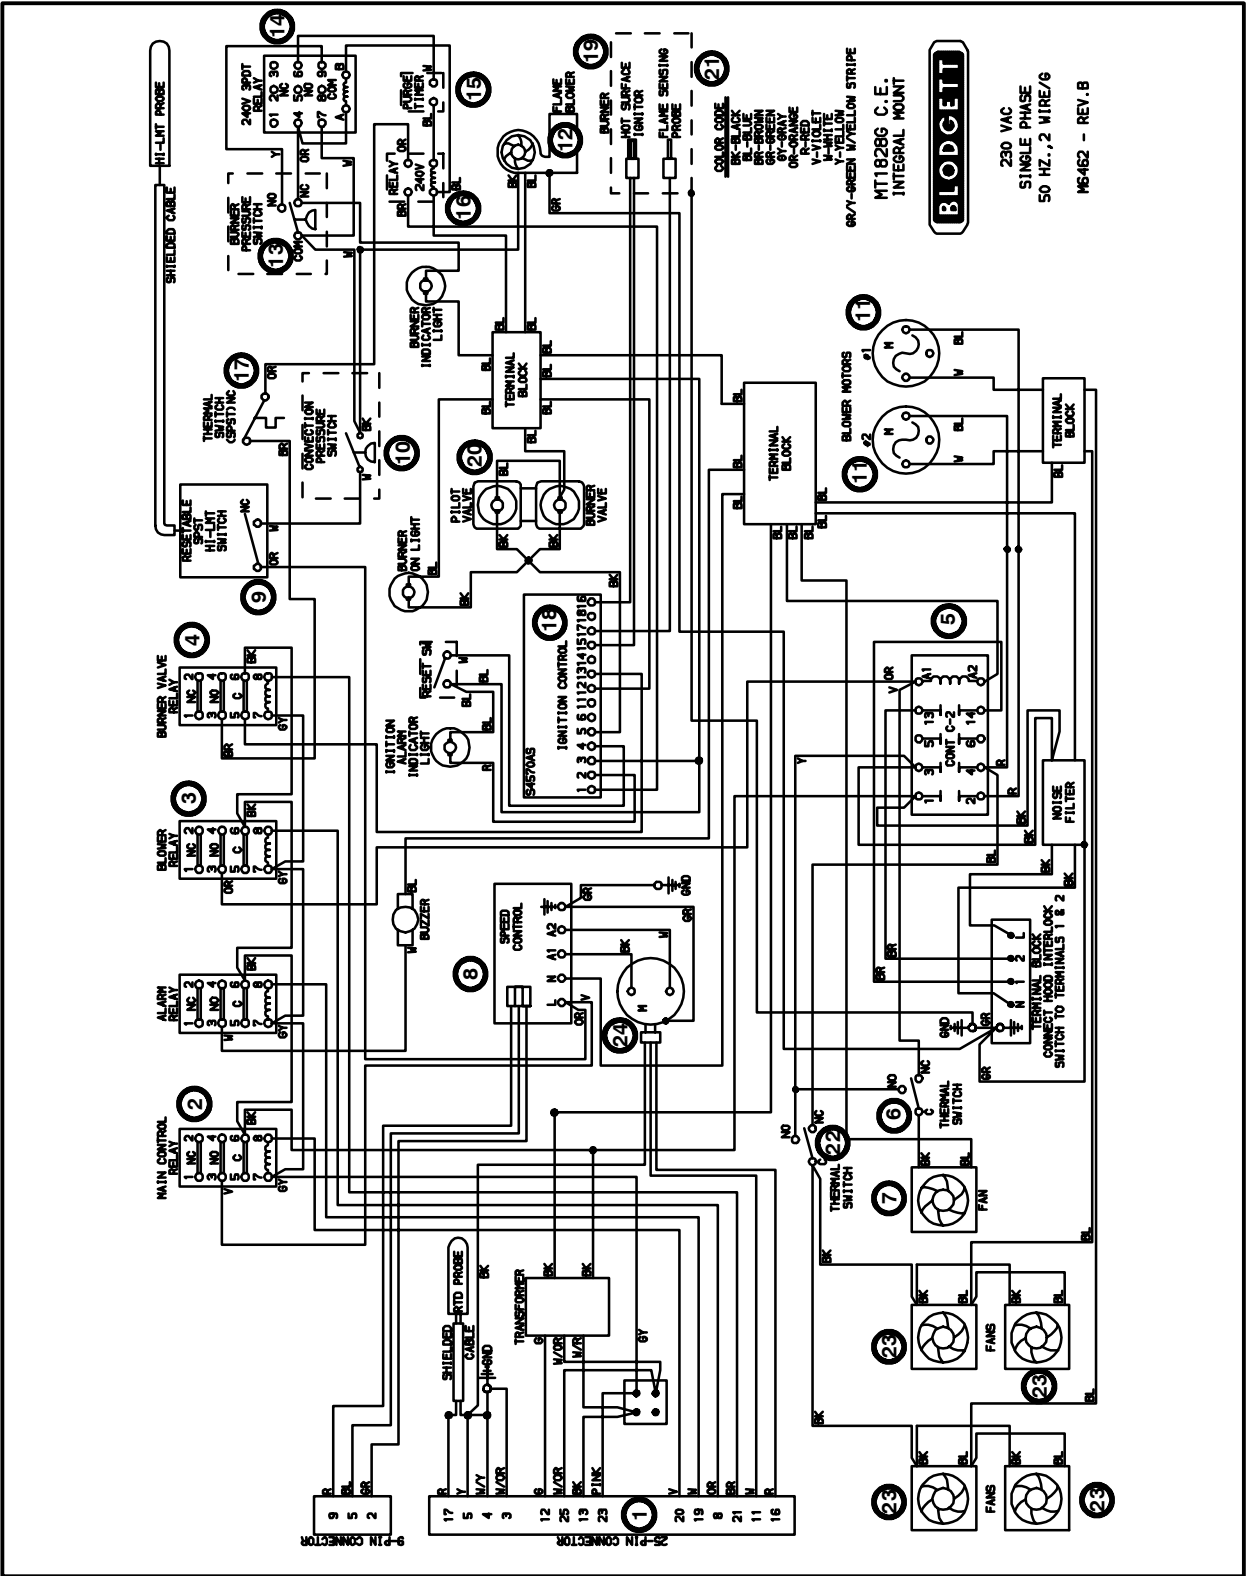

FIGURE 5
*NOTE: Refer to FIGURE 5 for component locations.*